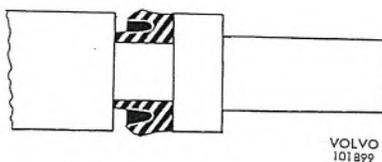

Fig. 5-60. Piston seal
4. Inspect the parts. If the cylinder surfaces are scratched or damaged by rust, the valve should be replaced complete. However, if the cylinder surfaces are not damaged, replace only the piston complete. When doing so, check that the seal is facing in the direction shown in the Fig. 5-60.
5. Fit the piston (21) complete after having coated it with a brake fluid or a light layer of brake paste. Screw in the plug (1) together with the O-ring (2). The tightening torque is 100-120 Nm (70-85 lbft).